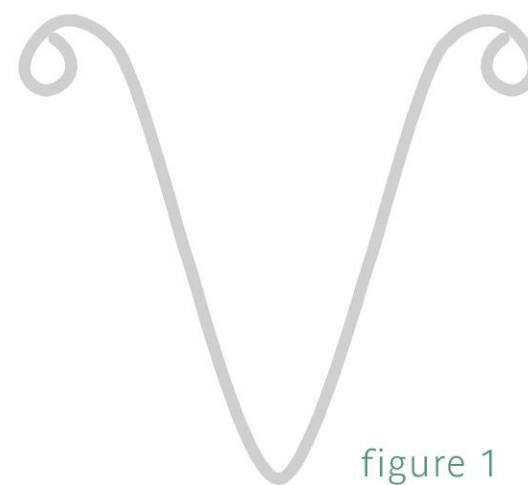

figure 1
- 4 Use round-nose pliers to form a loop on each wire end. Each loop should face out from the V. Continue turning the loop one-quarter turn to form an open spiral (Figure 1).